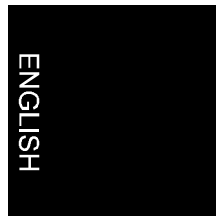

Figure 19: Installing PhotoExpress 2.0
9. Select a background colour (Figure 19). Click on 'Next'.